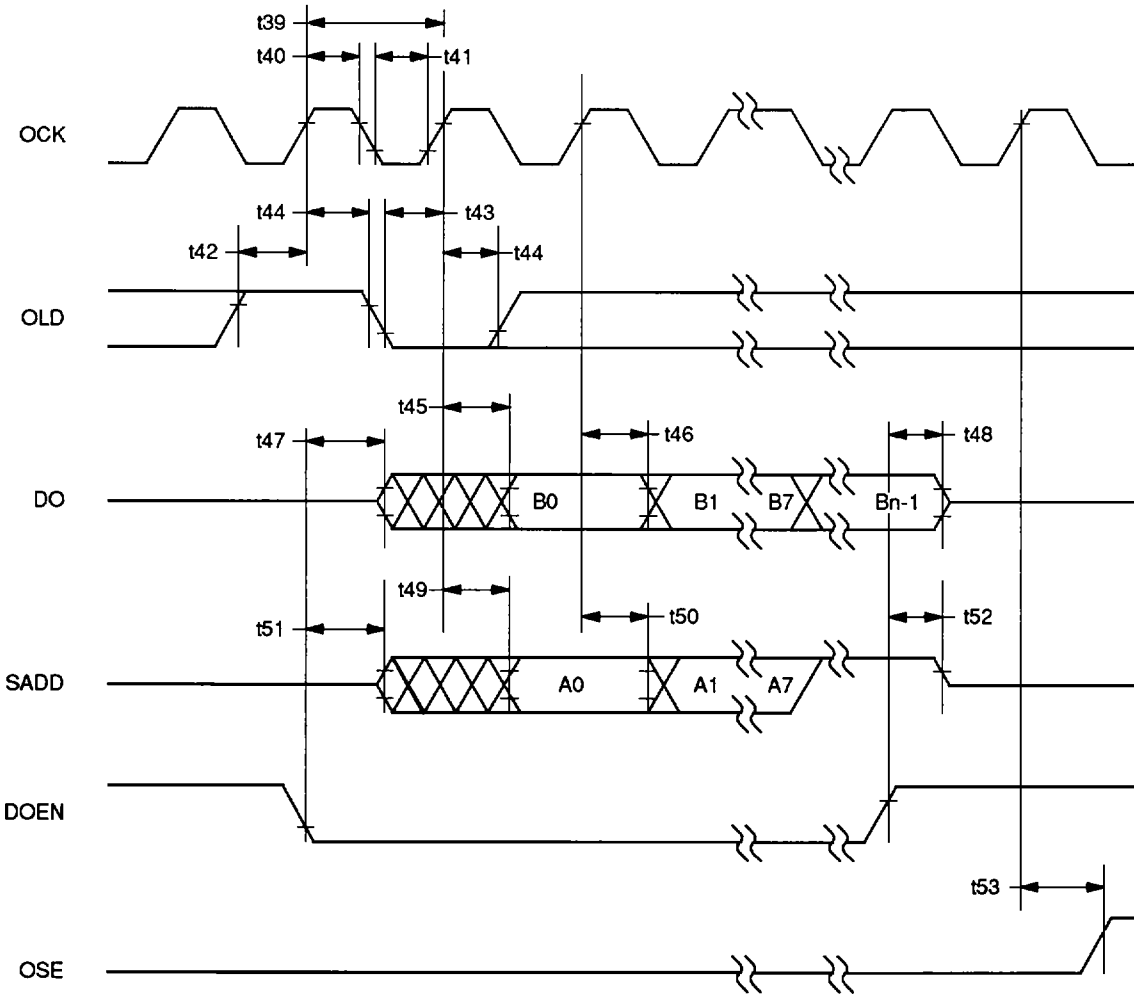

Figure 8. Serial Output Timing
**Table 28. Timing Requirements for Serial Output (See Figure 8.)**
**Table 29. Timing Characteristics for Serial Output\* (See Figure 8.)**